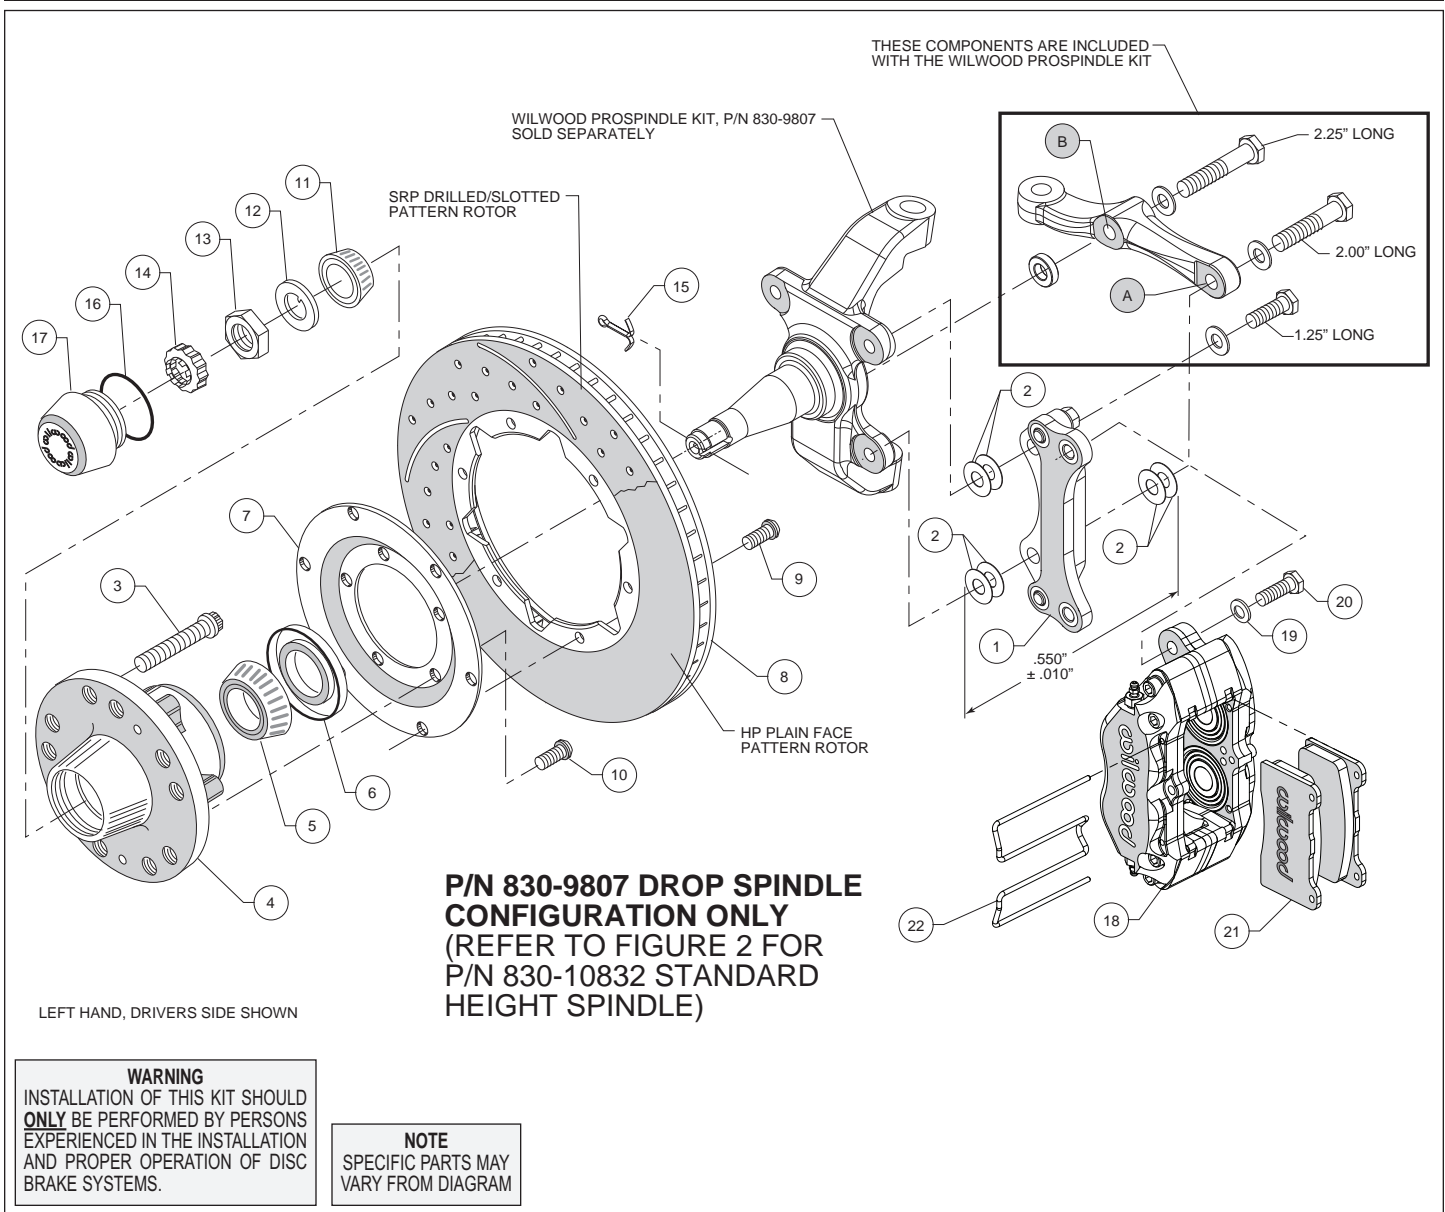

Figure 1. Installation Configuration For Drop Spindle, P/N 830-9807
**Assembly Instructions** (numbers in parenthesis refer to the parts list and Figures 1 and 2 on the preceding pages):
•**NOTE:** Each Wilwood ProSpindle kit includes bolts, washers, and a spacer to mount the steering arm and caliper bracket. The various bolts are identified by length in the following instructions and in Figures 1 and 2.
**For 2" Drop ProSpindle (P/N 830-9807):** The caliper bracket assembly (1) should initially be installed with clean, dry threads on the mounting bolts.
- Orient the bracket as shown in Figure 1 and Photo 1. Install at top spindle hole using 1.25" long bolt and .06" thick washer (from ProSpindle kit), and two .016" thick shims (2) between the bracket and spindle, Figure 1.
- Orient the steering arm, and identify the hole marked 'A', as shown in Figure 1. Install at bottom spindle hole using 2.00" long bolt, .06" thick washer (from ProSpindle kit), two .016" thick shims (2) between the steering arm and the bracket, and another two more .016" thick shims (2) between the bracket and spindle, Figure 1. The bracket is located between the steering arm and spindle. **NOTE:** The bracket and shim washers must add up to a total thickness of .550" ± .010", Figure 1.
- Finish attaching the steering arm through the hole marked 'B', as shown in Figure 1. Install using 2.25" long bolt, .06" thick washer, and .25" thick spacer (all from ProSpindle kit), Figure 1.
- Install wheel studs (3) into the hub (4), Photo 3. Torque to 77 ft-lb. **NOTE: There are two lug patterns of five holes each in the hub (5 x 4.50 and 5 x 4.75).** Make sure of the correct hole pattern for the wheel application before installing the studs into the hub.
- Pack the large inner bearing cone (5) with high temperature disc brake bearing grease (available from your local auto parts store) and install into the backside of the hub (4), Photo 4.
- Install the grease seal (6) by pressing into the backside of the hub (4), flush with the end of the hub, Photo 4.
- Orient the rotor (8) and the rotor adapter (7) as shown in Figure 1 or 2 and Photo 5. Attach the rotor to the adapter using bolts (9). Using an alternating sequence, apply red *Loctite*® 271 to the threads, and torque to 25 ft-lb.
- Mount the adapter/rotor assembly (7 and 8) to the hub (4) using bolts (10), as shown in Figure 1 or 2 and Photo 6. Using an alternating sequence, apply red *Loctite*® 271 to the threads, and torque to 45 ft-lb.
- Pack the small outer bearing cone (11) with high temperature disc brake bearing grease and install into front of hub (4). Slide the hub assembly onto the spindle. Secure using spindle washer (12) and spindle nut (13), Photo 7. Bearing adjustment: Tighten the nut while turning the hub. When there is a slight bind on the bearings, they are seated correctly. Back the nut off about 1/6 to 1/4 of a turn, or sufficiently to allow .001" to .007" end play. **WARNING: Failure to back off adjusting nut could cause bearing to run hot and be**
•Screw dust cap (17) into hub (4), Photo 8. Friction created by the o-ring (16) on the dust cap keeps it from unscrewing.
•**NOTE:** Please reference the caution statement at the beginning of the assembly instructions. Mount the caliper (18) onto the caliper mounting bracket (1) using bolts (20) and washers (19), as shown in Figure 1 or 2. Temporarily tighten the mounting bolts and view the rotor (8) through the top opening of the caliper. The rotor should be centered in the caliper, Photo 9. If not, proceed as follows:
- Adjust by adding or subtracting shims (2) between the bracket and the spindle. Always use the same amount of shims on each of the two bolts between bracket and spindle.
- For the lower bracket mount bolt, if a shim was added between the bracket and spindle, then a shim must be removed between the steering arm and bracket, such that the total thickness of bracket and shims remain equal to  $.550 \pm .010$ ", Figure 1.